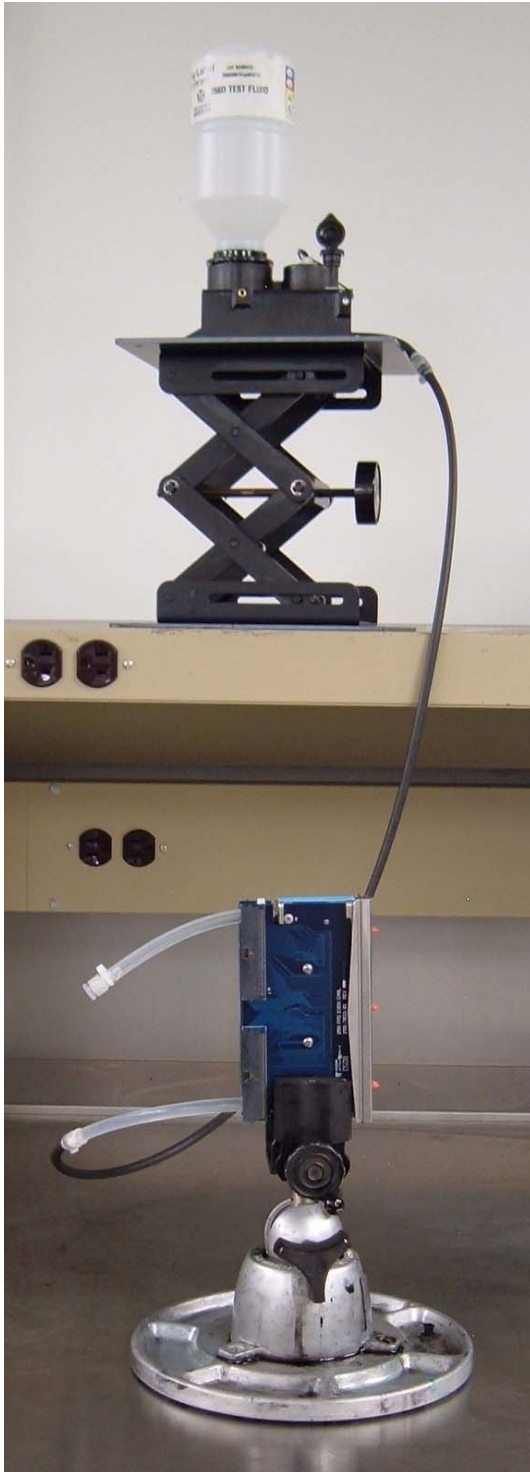

Figure 5: Gravity filling print head with ink after refurbishment.
6. With the printhead held vertically and the outlet luer fittings at the top of the assembly, slowly introduce ink via a gravity fed ink reservoir into the printhead from the inlet luer fitting and prime through the outlet luer fitting until no air bubbles are seen. Cap off the outlet luer fitting. See Figure 5. The ink supply is approximately 25 inches (635 mm) above the print head.